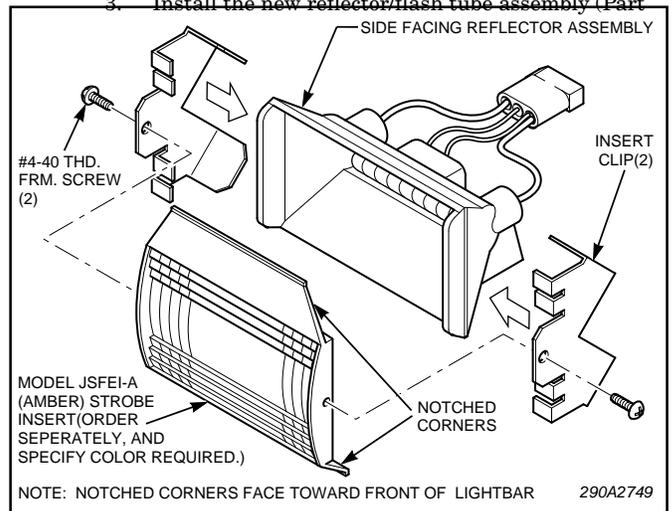

Figure 8.
1. See figure 8. Position two insert clips on the side facing reflector/flash tube assembly and press the clips until they slide into position.
2. Position the separately purchased insert as shown in figure 8. Align the holes in the insert with the holes in the clips and secure with two #4 screws.